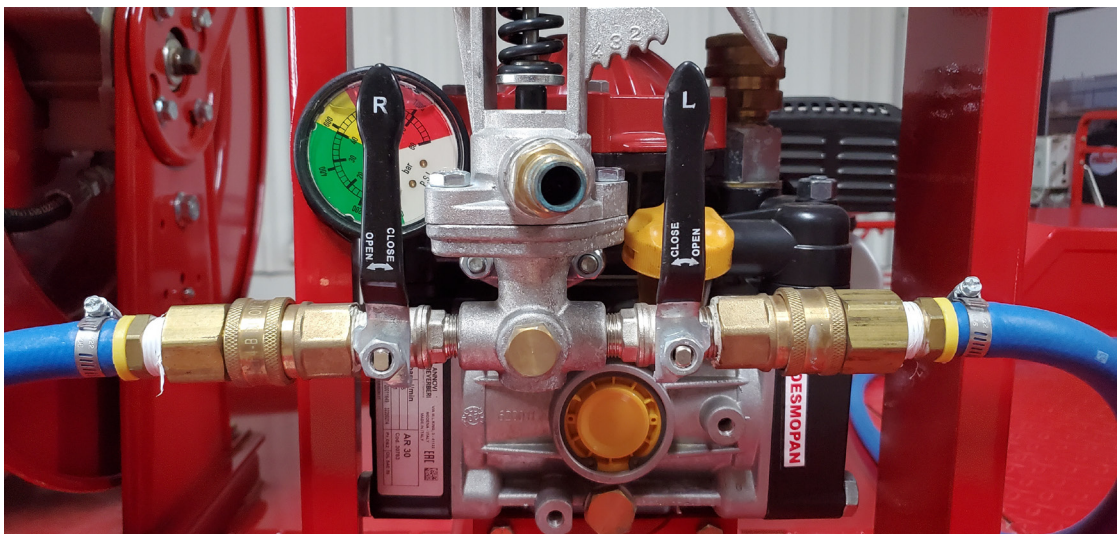

Figure 2.5: Spray Control Valves, closed
3. Take the OD 1.05" x ID 0.824" bypass tube (**F**) and the 5' X 1/2" hose (**G**) that is supplied and fasten them together. Put the bypass tube in the smaller hole of the barrel. Connect opposite end of the bypass hose to the 1/2" QDC connector on the pump located directly above the flow control valves. See Figure 2.5 page 31.
Check that the two spray control valves are in the closed position and that the bypass and suction tubes are properly connected before attempting to start the engine. See Figure 2.5.